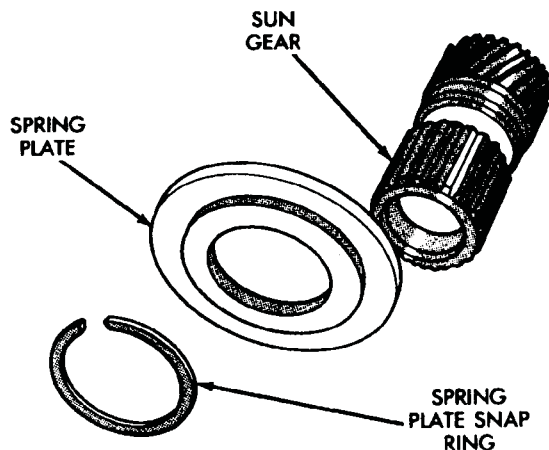

Fig. 52 Sun Gear And Spring Plate Assembly
(13) Install direct clutch spring plate on sun gear. Then secure plate to sun gear with snap ring (Fig. 52). Shoulder side of plate should face outward and toward front.